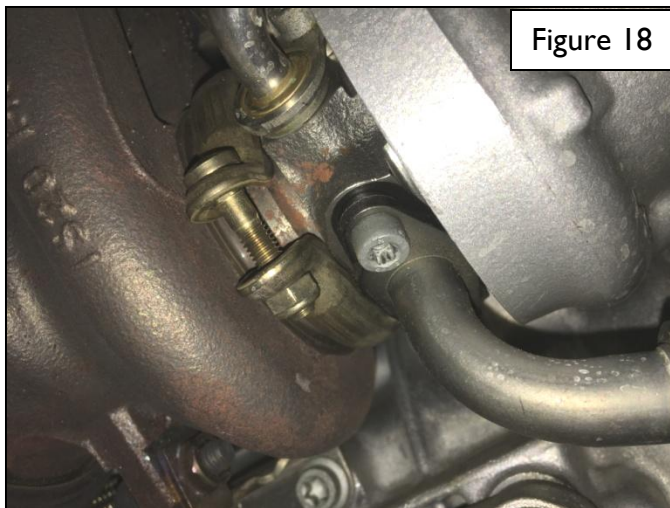

Figure 18
- Remove the two bolts holding the oil drain line to the bottom of the turbo (see Figure 18).